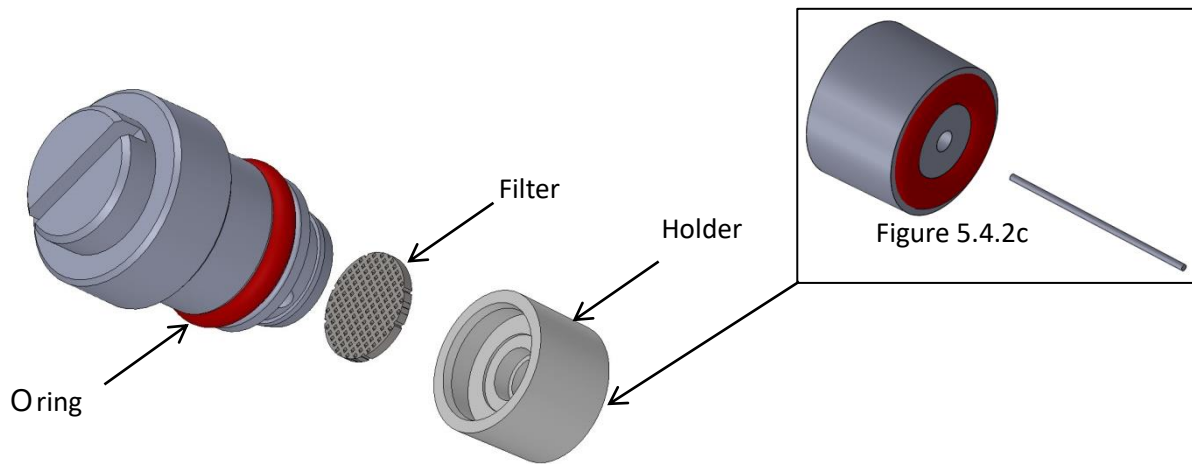

Figure 5.4.2b Filter part
6. Pay attention to the position of the filter when replacing. (See Figure 5.4.2b)